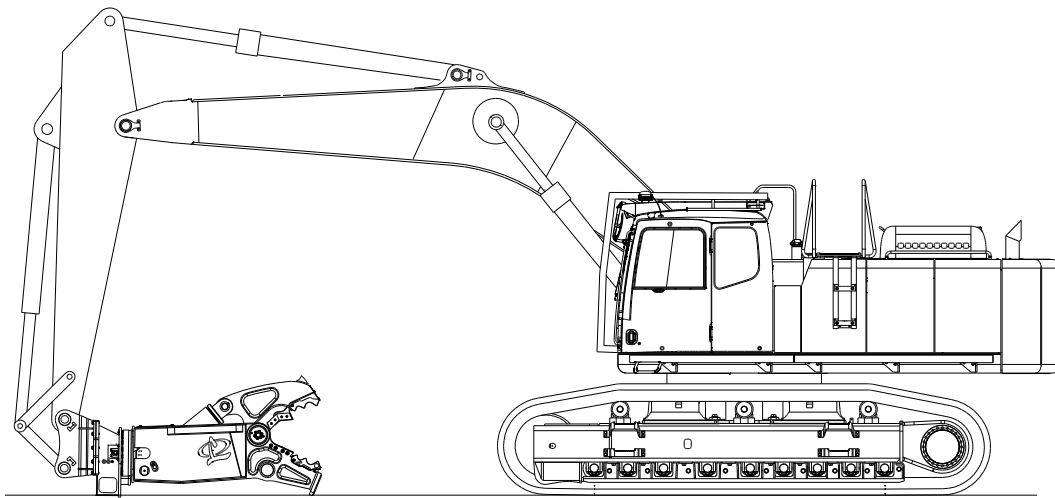

Figure 3-5
1. Curl the attachment under until it is horizontal and lower the attachment to the ground (see figure 3-5).